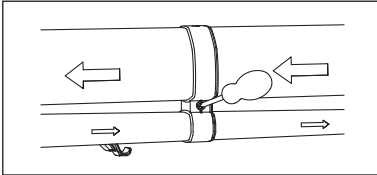
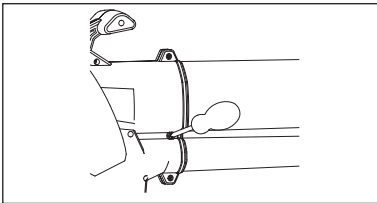
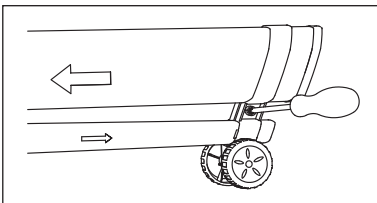

Fig.3
Fig.4
Fig.5
Assembly (Fig.3 Fig.4 and Fig.5)
1. Pull out the two suction/blower tubes, one Vacuum-blower body, 1set wheel + bracket, four screws that in the manual bag from package, the user need to assemble the tube 2-1 I nsert into tube 2-2 forcibily, fasten the screw (ST4 x 50) until they connect well. Please refer to Fig. 3. And then put the whole tube into the machine body and secure fixed by other two provided screw (ST4 x 16), refer to Fig. 4.
2. Refer to Figure 5, holding bracket of wheels and install it in the proper position of 2-1 tube, and then tighten the ST4 x16 screw.